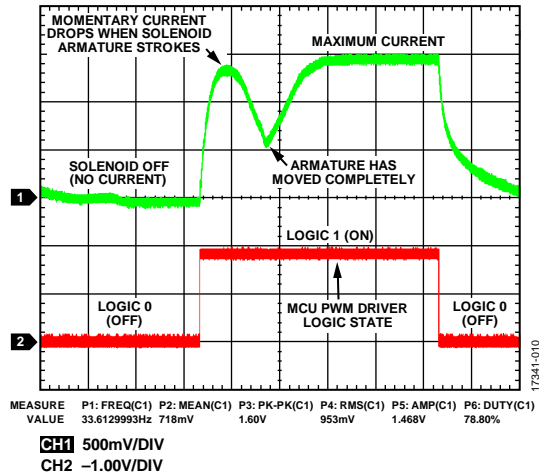

Figure 10. AD8210 Actual Voltage Output
The system was tested using a 12 V solenoid actuator with an inductance of 20 mH and a dc resistance of 12  $\Omega$ . The actuator used is a dc push-pull solenoid. It operates at a 12 V supply and can produce a 6 newton (N) at 50% duty cycle. Note that for the purposes of testing electrical performance, an inductor can be used as an alternative load. Figure 10 shows the actual voltage output from the AD8210.